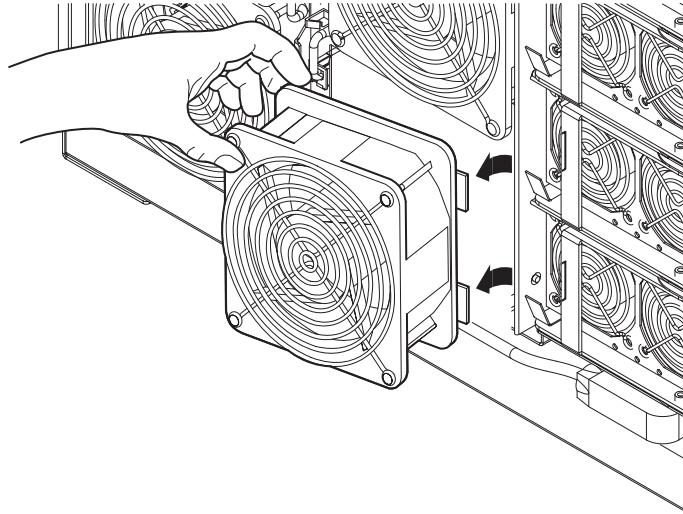

FIGURE 6-3 Removing a Fan
7. Remove the fan and place on an ESD mat (FIGURE 6-3).
3. Orient the fan so that the two lugs on the metal carrier engage in the cutouts in the fan tray (FIGURE 6-3).